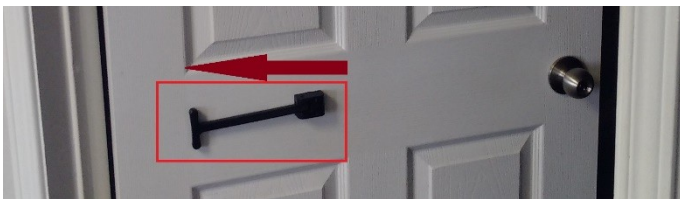

Figure 1
- Make sure the handle of the T-Pull Door Closer is pointing **away from the door knob** (see Figure 1).